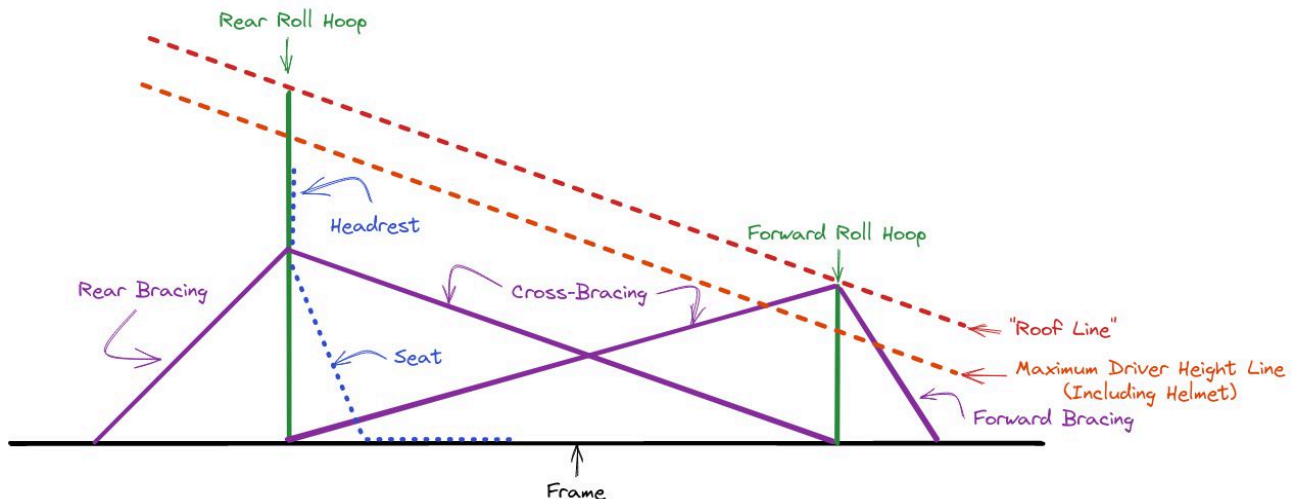

Figure 1: Example vehicle safety cell, including appropriate bracing.
- VR.4.1 A roll hoop, or similar protection (see VR.4.2), must be installed to protect the driver in a roll-over situation. An example of a well-designed safety cell including roll hoops is shown in Figure 1.
- 4.3.3. Bracing and triangulation must be used to reinforce the roll hoop from force in every direction. See Figure 1 for an example that shows bracing and triangulation.
- VR.4.4 The roll hoop must be taller than the drivers helmet, such that there is 50 mm of space between the top of the drivers helmet and the ground in a rollover event. See "Roof Line" and "Maximum Driver Height Line" in Figure 1.